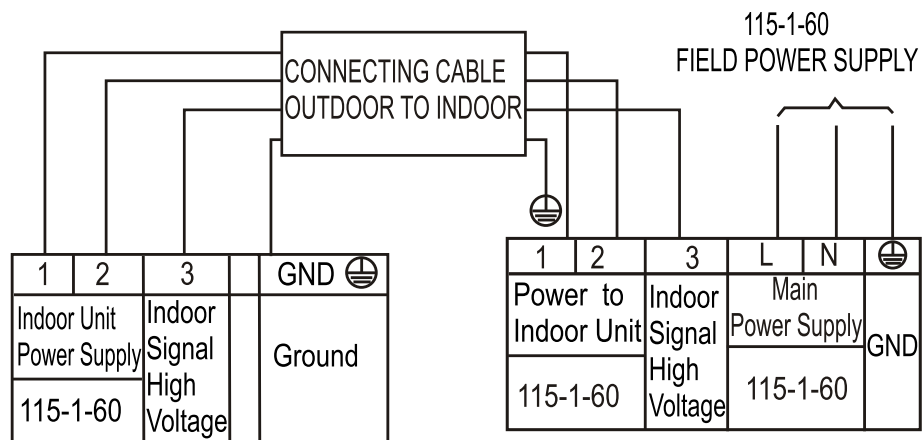
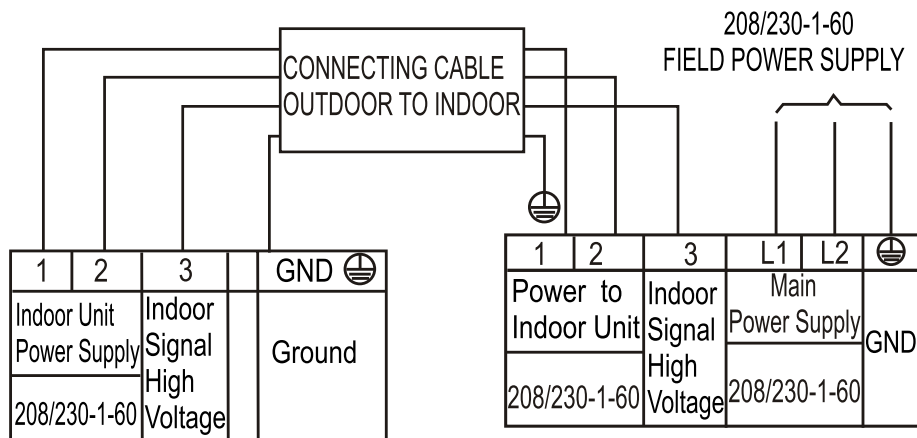

Fig. 21 — Connection Diagram 12K (115V)
Fig. 22 — Connection Diagram 6K - 36K (208/230V)
8. Connect the wiring from the outdoor unit per the connection diagram (see Figure 21 - Figure 22).